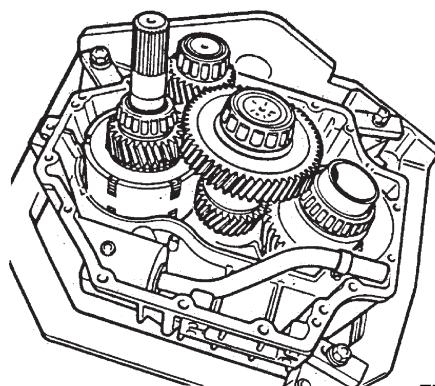

FIG. 5-7b
d) Remove gears from the housing (Fig. 5-7b)